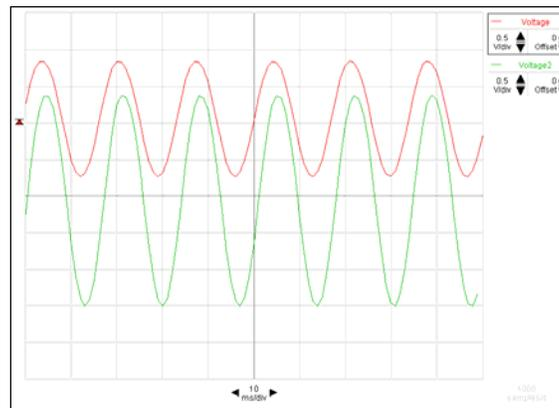

Fig. 14: example of oscilloscope image in step 23.
23. Adjust the sampling rate in Data Studio to 200 Hz. Use a scope to verify that both voltage signals are being read correctly. The scope display should be similar to that shown in Fig. 14.